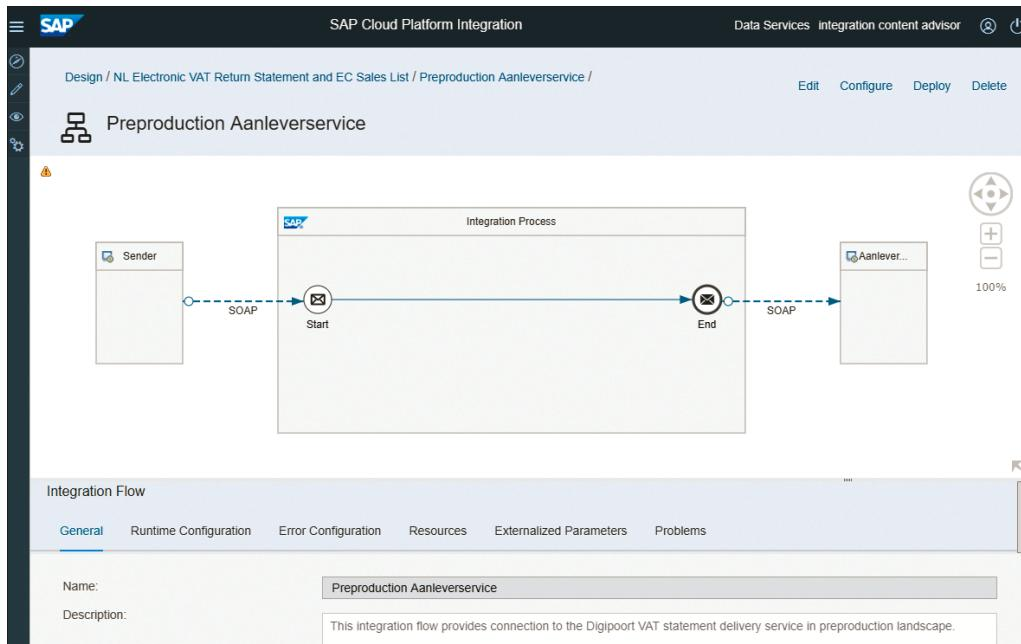

Figure 3.16 Details of the Integration Flow
3. To display an integration flow, click on its name. You then get a detailed view of the flow as shown in Figure 3.16.